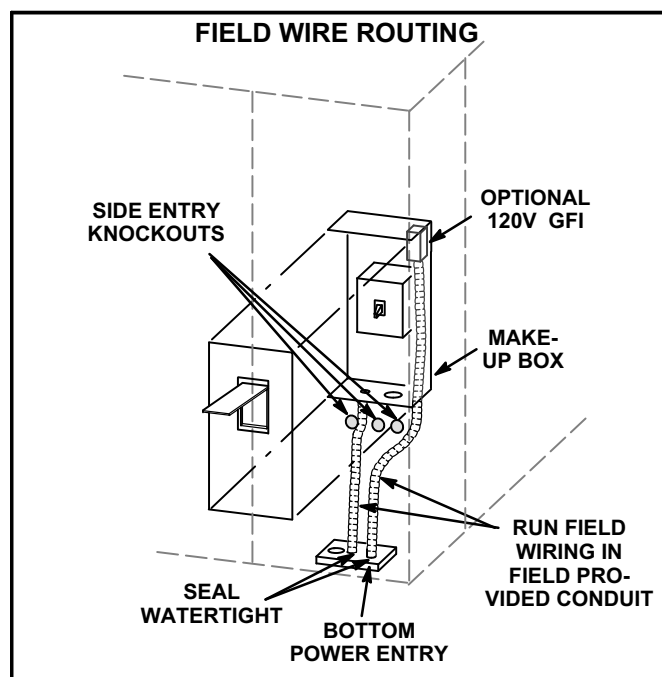

FIGURE 13
Route field wiring in conduit between bottom power entry disconnect. See figure 13. This does not supersede local codes or authorities having jurisdiction.
- 3- Connect separate 120v wiring to optional GFCI outlet. Route field wiring in conduit between bottom power entry and GFCI. See figure 13.